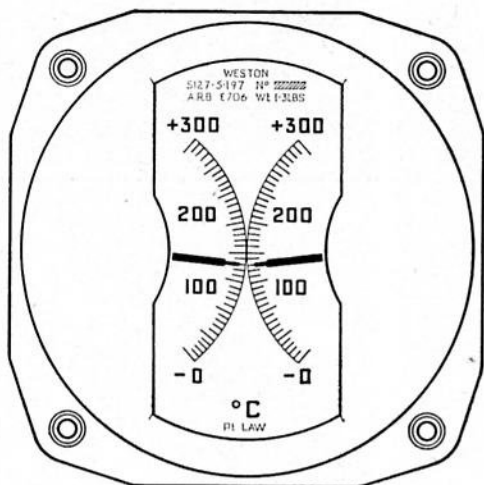

Fig. 1. Indicator, Type S127/5/197
1. The dual temperature indicator Type S127.5.197 (fig. 1) is calibrated in deg.C from -50 to $+350$ on each of two scales. The deflection of each pointer is controlled by variation of resistance of an externally connected platinum law resistance thermometer element. The two indicator movements are each designed as a ratiometer.